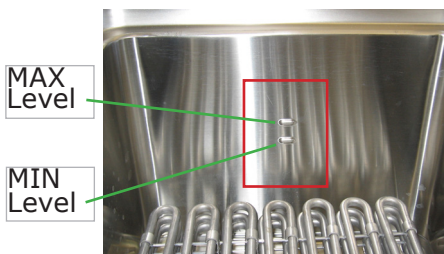

Fig. 7
- close the drain cock and fill the vat with frying oil or grease, at least to the MIN mark and not above the MAX mark inside the vat (**fig. 7**).
Do not start the fryer up before filling the vat/vats up with oil up to the MIN. mark and not over the MAX mark, inside the vat, (fig.7).